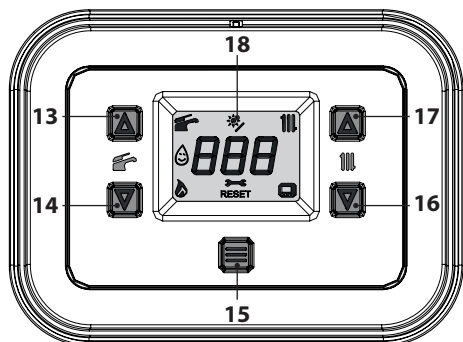
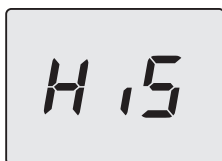

Figure 7.3
Figure 7.4
- Enter “programming mode” by pressing the 14 and 16 buttons simultaneously for 5 seconds (Figure 7.3) until **HiS** (in reference to the “Boiler History” menu) appears on the LCD display (Figure 7.4).